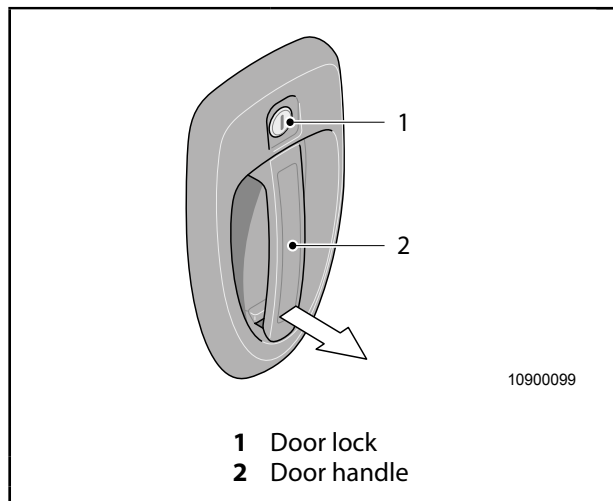

Fig. 14 Opening/closing the entrance door from outside
1. Insert the key into the door lock (Fig. 14, item 1) and turn it all the way to the stop towards the hinge side of the door.
3. Pull the handle (Fig. 14, item 2) to open the door.
2. Insert the key into the door lock (Fig. 14, item 1).